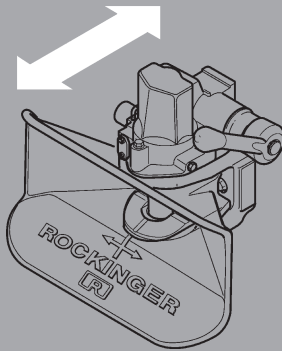

Fig. 5
- Grip coupling head (not jaw funnel) with both hands when uncoupled and move vigorously in longitudinal direction (see Fig. 5):